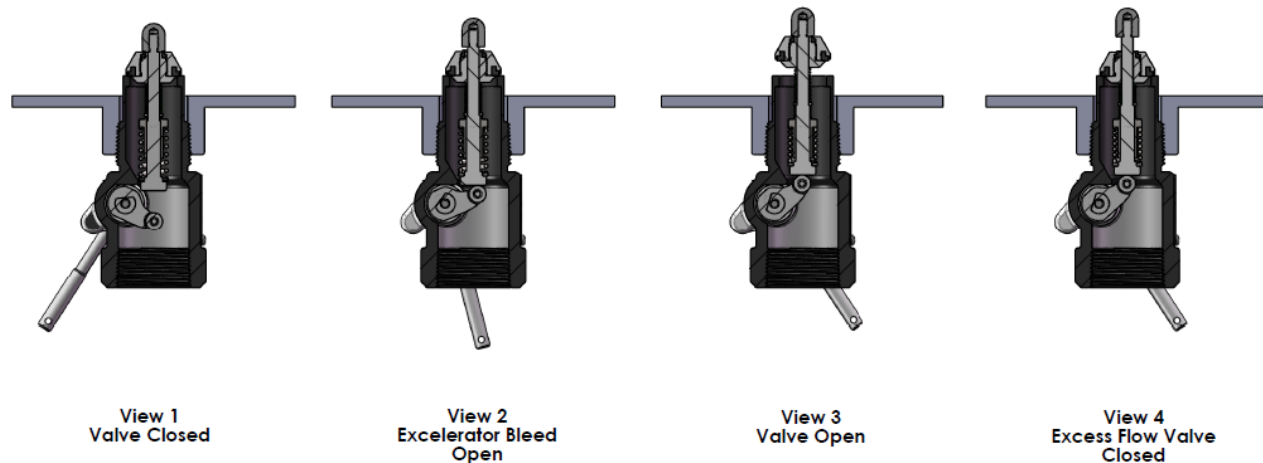

Figure 1: Operational Schematic
Refer to the operational schematic (Figure 1, View 1). The valve is held closed by both tank pressure and the valve's closing spring. There is no leakage past the resilient seals in the poppet to the valve outlet in this position.
The valve is opened by moving the operating lever to approximately midpoint in its 70° travel (Figure 1, View 2). This allows the cam to place the rapid equalization portion of the valve stem in the pilot opening, permitting a larger amount of product to bleed downstream than if the operating lever were moved to the full open position.
When tank and downstream pressures have equalized in the bleed position, (after a few seconds), the excess flow spring pushes open the main poppet (Figure 1, View 3) and the operating lever can be moved to the full open position.
Once the main poppet opens, a flow greater than the valve's excess flow spring rating or a sufficient surge in flow forces the main poppet closed against the excess flow spring (Figure 1, View 4). The pilot valve allows a small amount of product to bleed, but much less than (Figure 1, View 2) where the rapid equalization portion of the stem is placed in the pilot opening. When the operating lever is moved to the closed position, the valve closes completely and seals tightly (Figure 1, View 1).
3. Move the lever to the half-open (rapid equalization) position (Operational Schematic Figure 1, View #2) to equalize pressure. When the main poppet clicks open, move the operating lever fully open.